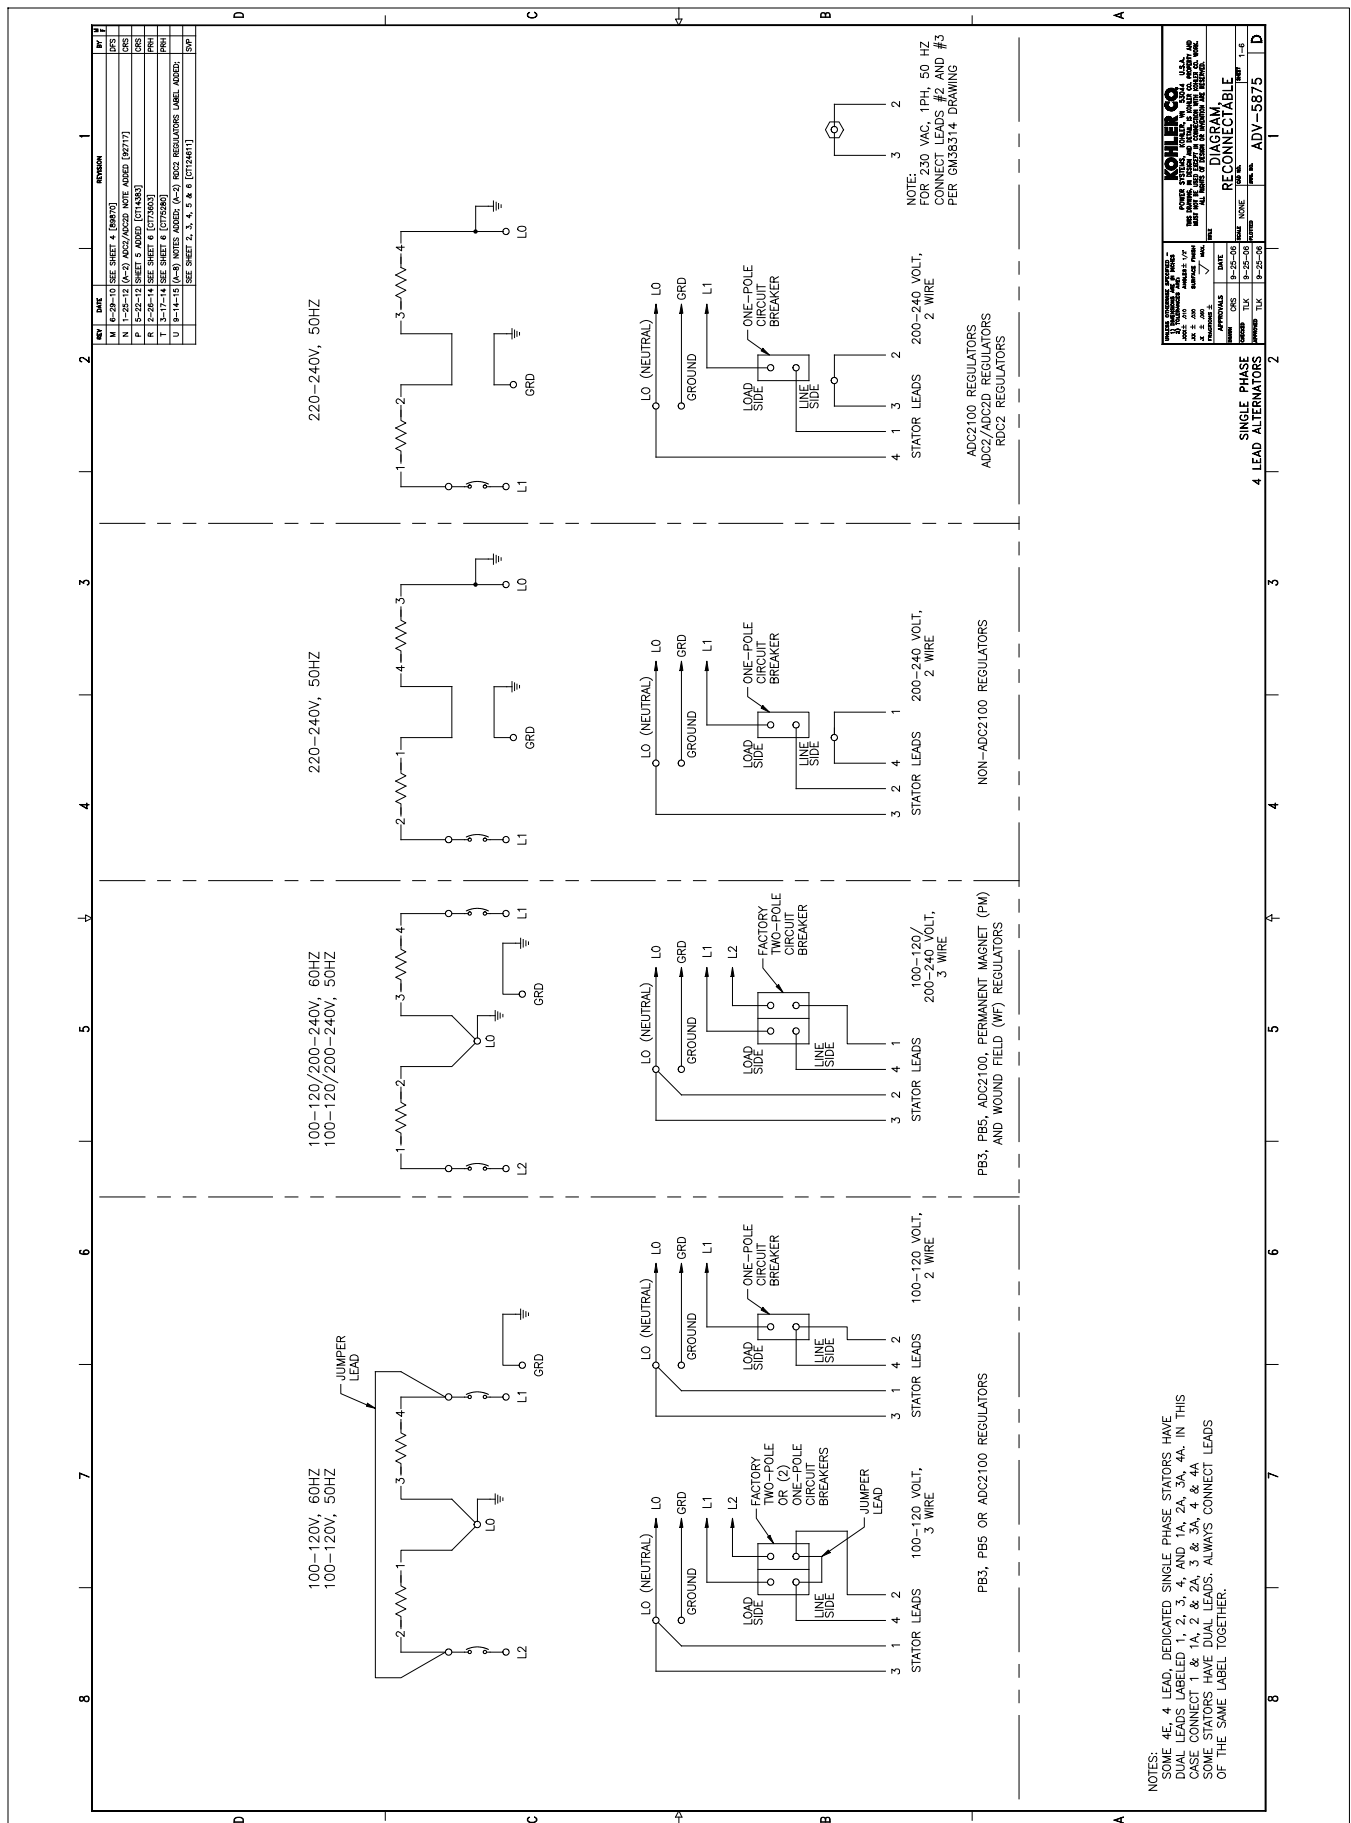
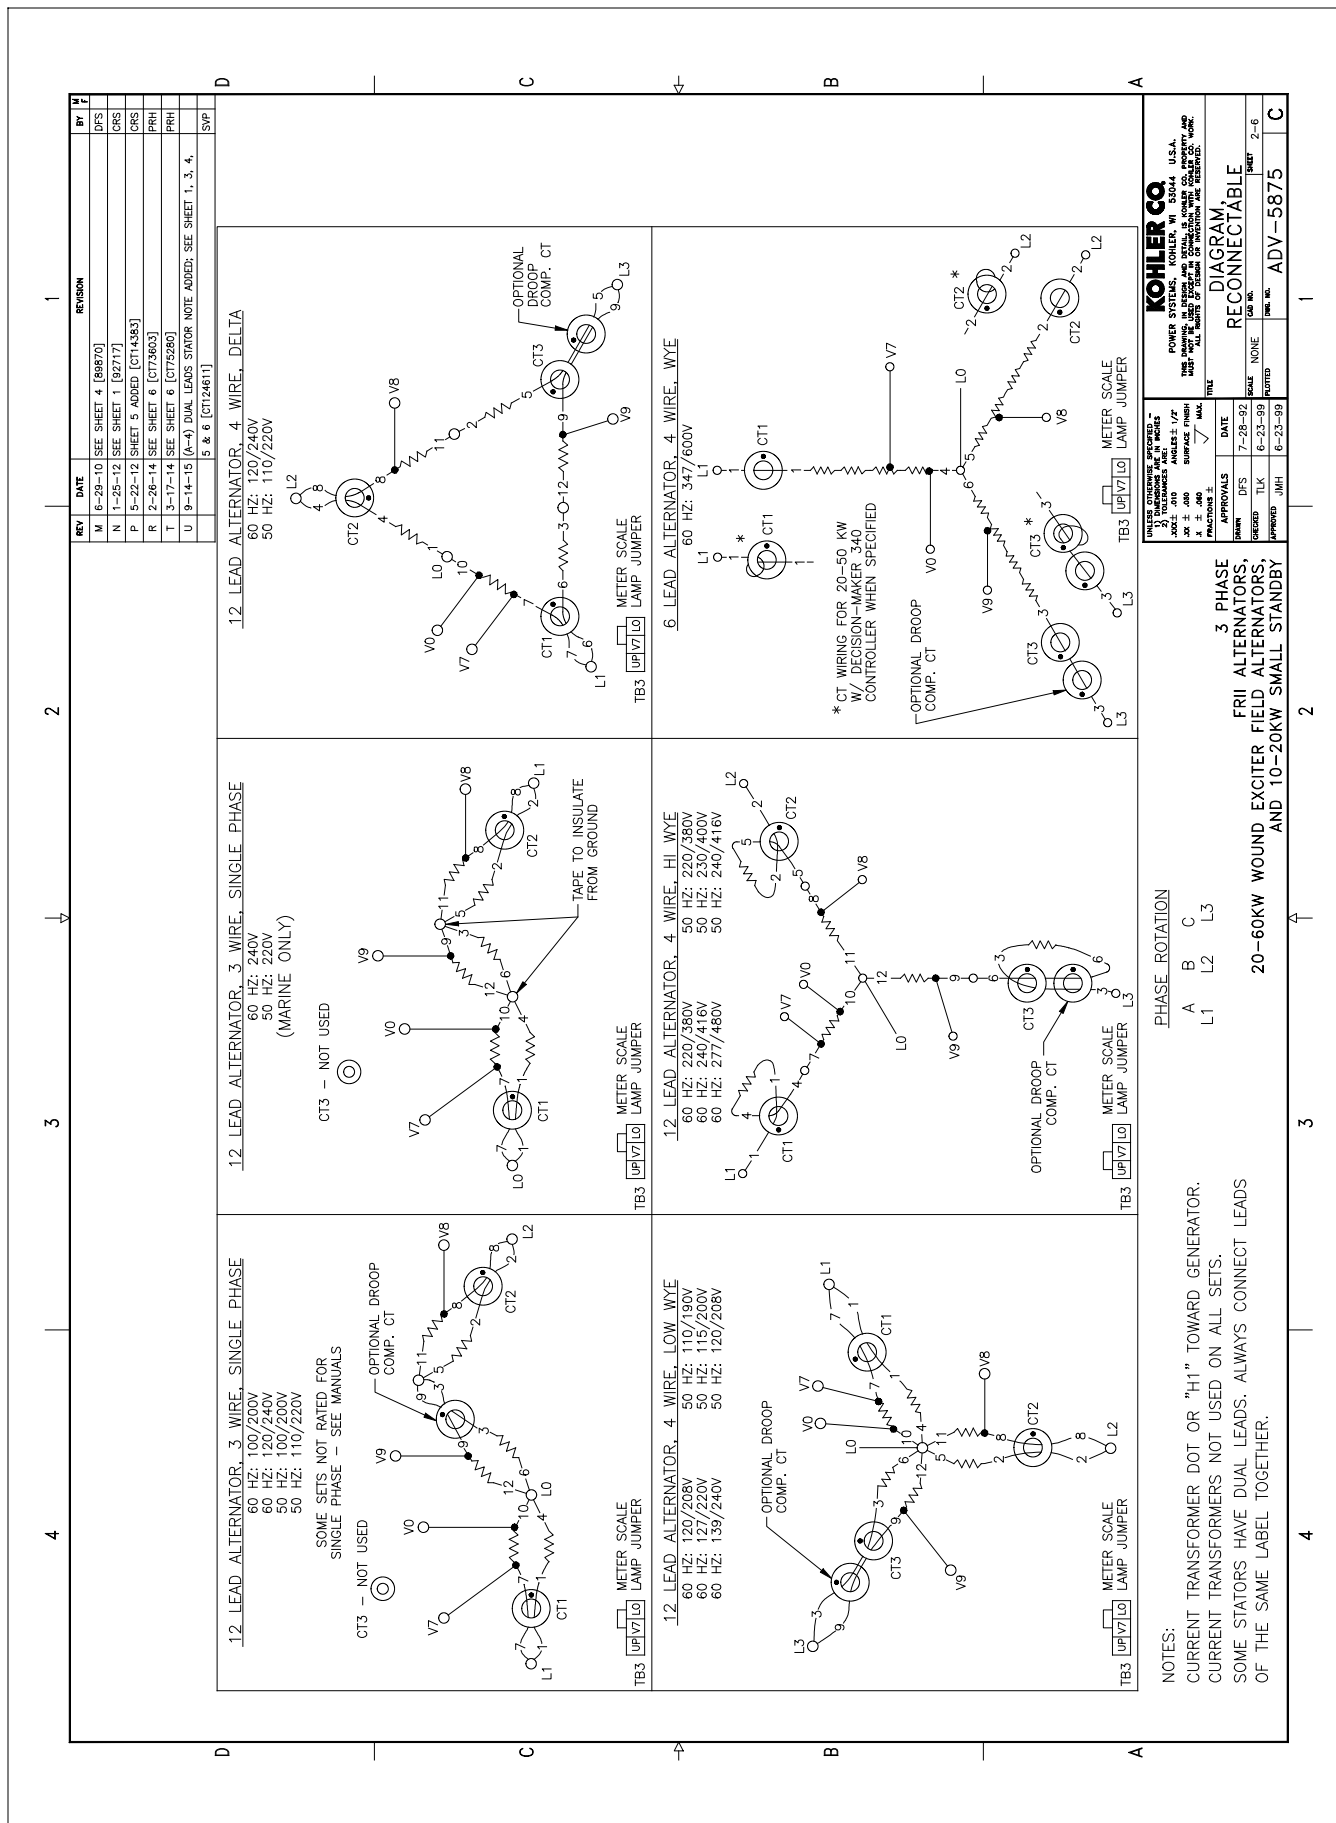

Figure 5-1 20-150 kW Permanent Magnet and Wound Field Single-Phase Alternators, ADV-5875U-1
Figure 5-2 20-400 kW Permanent Magnet and 20-60 kW Wound Field Alternators, ADV-5875U-2
3. Use Figure 5-1, Figure 5-2, Figure 5-3, or Figure 5-4 to determine the generator set voltage configuration. Note the original voltage and reconnect as needed. Route leads through current transformers (CTs) and connect them according to the diagram for the desired phase and voltage.